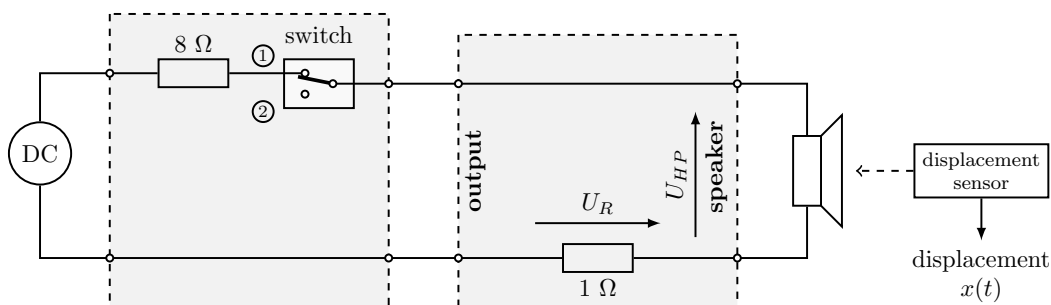
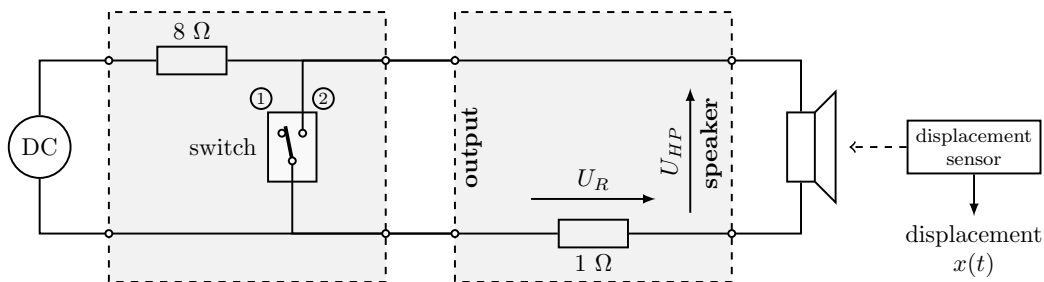

Fig. 2: Block diagram of the experimental setup for current step function measurement.
Fig. 3: Block diagram of the experimental setup for voltage step function measurement.
- **Connect the switch-box and the z-box** with the loudspeaker as shown in Fig. 2. Ensure both **switches are** in the "off" (**disconnected**) position for now.
- For this measurement, you will use the switch illustrated in Fig. 2. The second switch (not shown in Fig. 2) remains disconnected during this step.
1. Set the switch shown in Fig. 2 to position 1 (connected to the DC source). You should observe the loudspeaker membrane exhibiting a DC excursion.
- For this measurement, you will use the switch depicted in Fig. 3. The second switch (not shown in Fig. 3) remains connected (allowing the current to run) during this step.
- Compare all three signals: voltage $u(t)$, current $i(t)$, and displacement $x(t)$ for both configurations, as illustrated in Fig. 2 and Fig. 3.